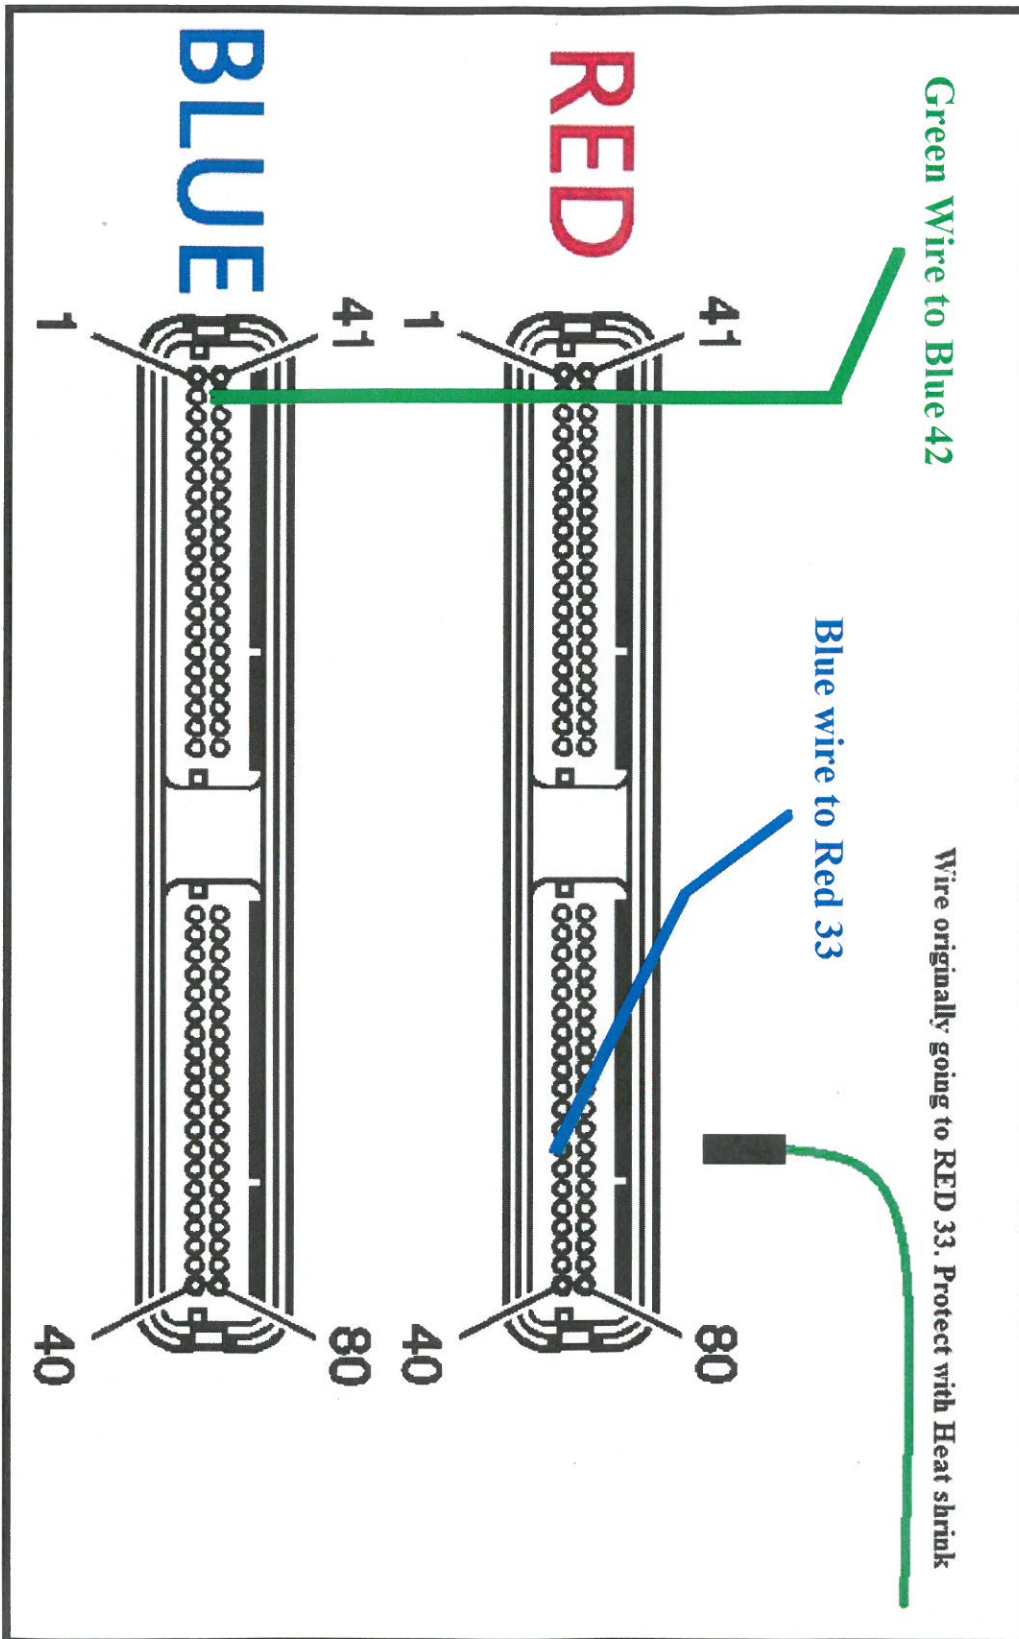

Figure 2 PCM Pin locations
2. Add the trigger wires to the PCM harness. First if equipped remove the dark green wire going to spot RED 33. Use the supplied heat shrink to cover the pin. Fold the protected wire back into the harness. Add the BLUE wire from our harness to this spot. Add the GREEN wire to spot to BLUE 42. *(Figure 2)*